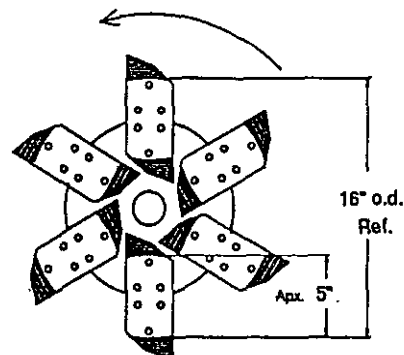

FIG. 1
2. **BLADE WEAR:** The blades can be rotated 180 degrees to prolong the life of the blades. Once the diameter is approximately 16" o.d. the blades must be flipped or replaced. This is approximately 1  $\frac{1}{2}$ " off each end. See the diagram in Figure 1.